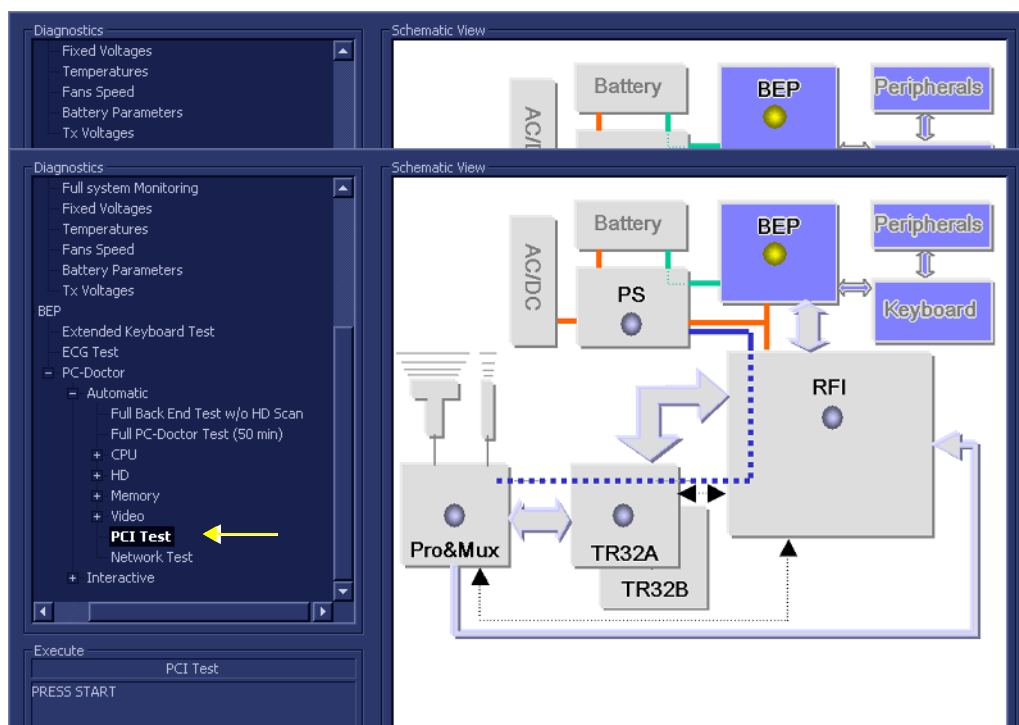

Figure 7-92 PCI Test
- 1.) In the *Diagnostic Test* window, trackball to **PCI Test** in the list of *PC Doctor* tests available for selection from the Diagnostic Test Tree (see Figure 7-92 below) and press **Set**. The Test name is displayed under *Execute*; the relevant system components to be tested are highlighted light blue in the Schematic View (BEP, Peripherals, Keyboard), as shown below: